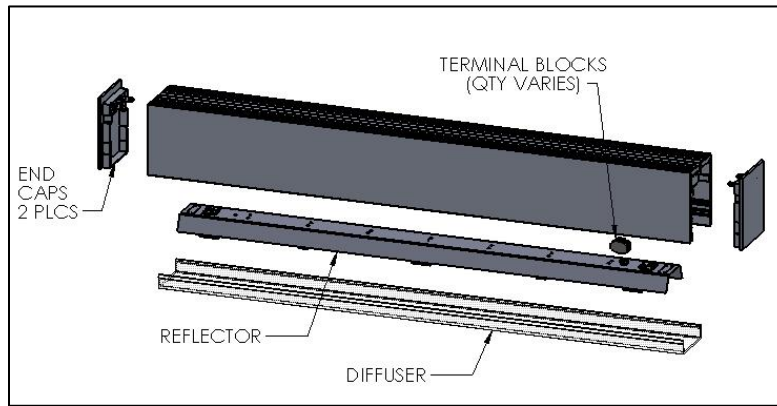

FIG. 8- FIXTURE DISASSEMBLY
- Remove END CAP and DIFFUSER, Release REFLECTOR by using flat screw driver to Release the tab. Lift one lever on each terminal block to release one of the two wires allowing the REFLECTOR to be removed from FIXTURE (Quantity varies) as shown in FIG.8.